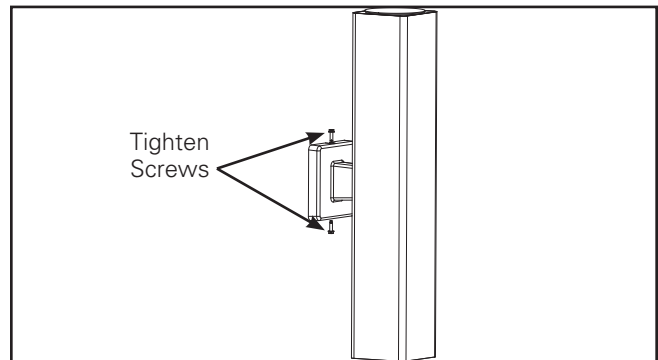

Figure 3.
3. Mount cylinder housing assembly to wall by tightening screws on top and bottom of arm base to 17 IN/LBS torque to engage mounting plate (Figure 3).